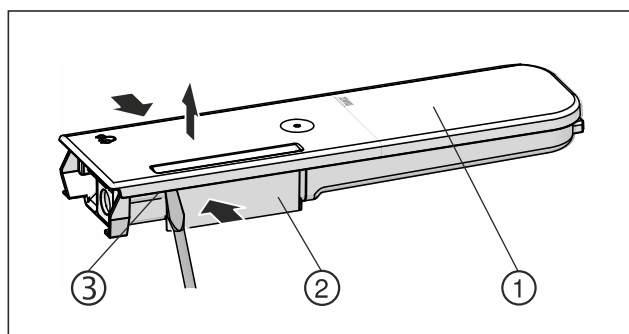

Fig. 144
- Push the water tanks *Fig. 144 (2)* together, leverage the cover *Fig. 144 (1)* carefully over the latching tabs *Fig. 144 (3)* and lift it up.
- Move the cover *Fig. 144 (1)* slightly forwards and back, and remove to the top.